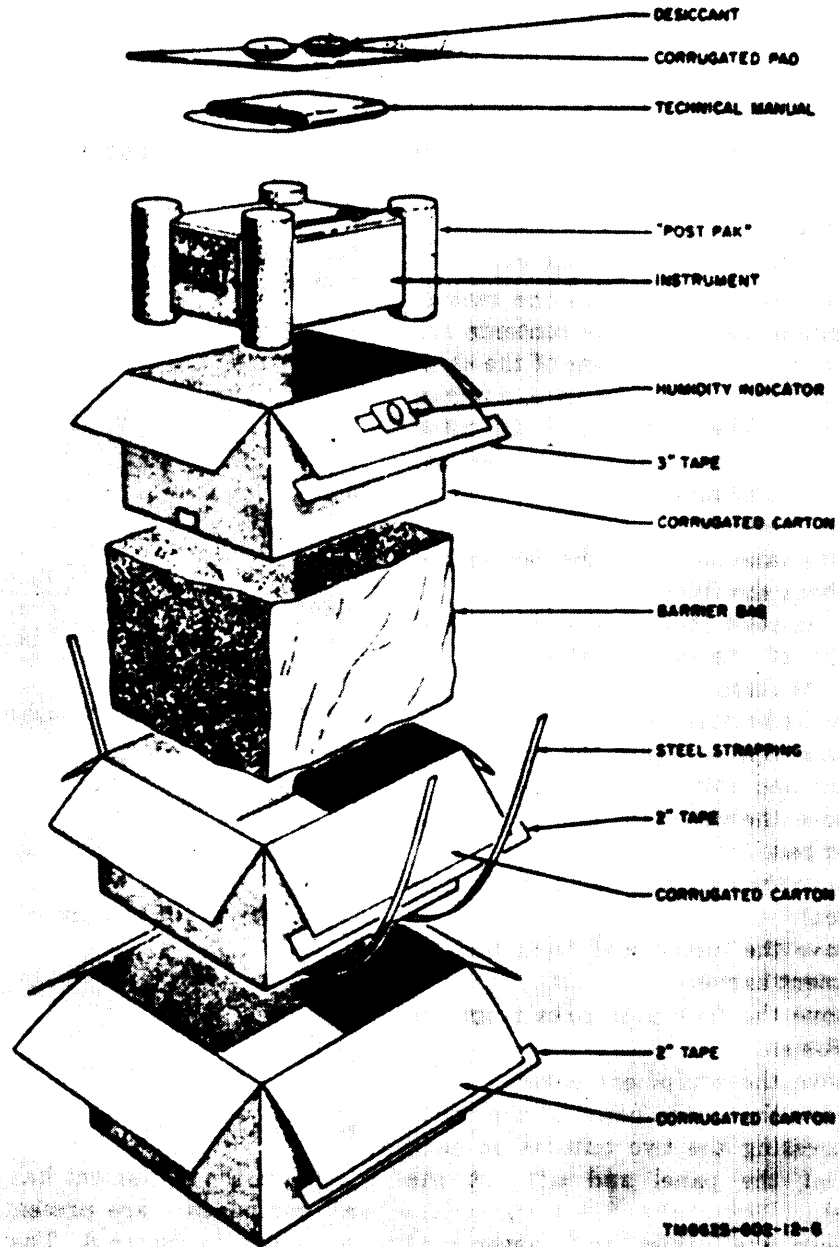

Figure 6. Test Set Telephone AN /USM-181(packaging diagram)
*a. Packaging Data.* When packed for shipment, the entire unit is Packed in one carton. A typical shipping carton and its contents are shown in figure 6. The dimensions of the shipping carton are 15-1/8 inches by 18-3/4 inches by 24-7/8 inches. The volume is 6,800 cubic inches and the shipping weight (with test set included) is 44-1/2 pounds.
- (1) Cut the tape on top of the carton and fold back the *flaps*.
- (2) Cut the steel strapping and the tape on top of the inner carton and fold back the flape.
- (3) Open the barrier bag.
- (4) Cut the tape on top of the instrument carton and fold back the flaps.
- (5) Remove the desiccant and the corrugated pad.
- (6) Remove the envelope that contains the manual.
- (7) Remove the instrument from the instrument carton.
- (8) Remove the four post pales from the instrument.
- (9) Remove the equipment cover.